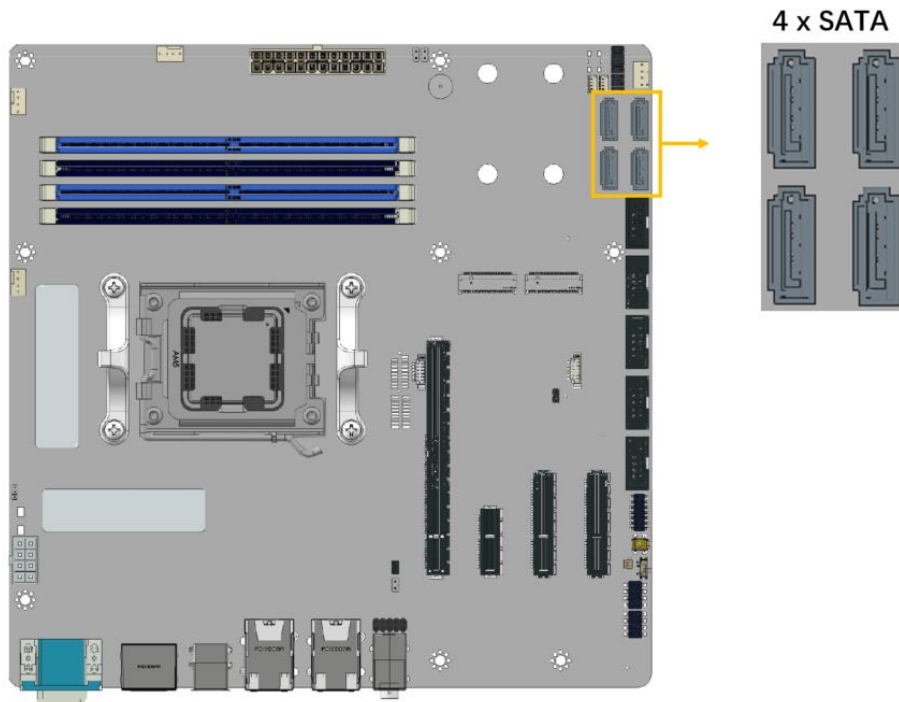

Figure 4-5: SATA 6Gb/s Connector Locations
- CN Location:** See Figure 4-5